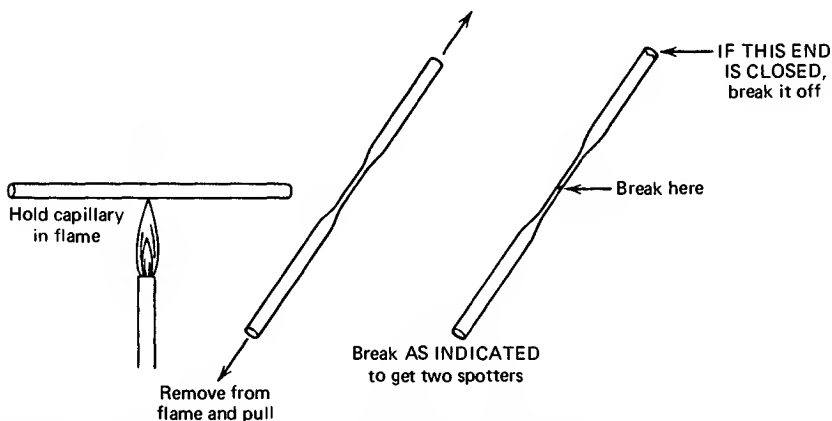

Fig. 90 Making capillary spotters from melting point tubes.
3. *Quickly* remove capillary from the flame, and pull both ends (Fig. 90). If you leave the capillary in the flame too long, you get an obscene-looking mess.
4. Break the capillary at the places shown in Fig. 90 to get **two spotters** that look roughly alike. (If you've used capillaries with *both ends open already*, then you don't have a closed end to break off.)